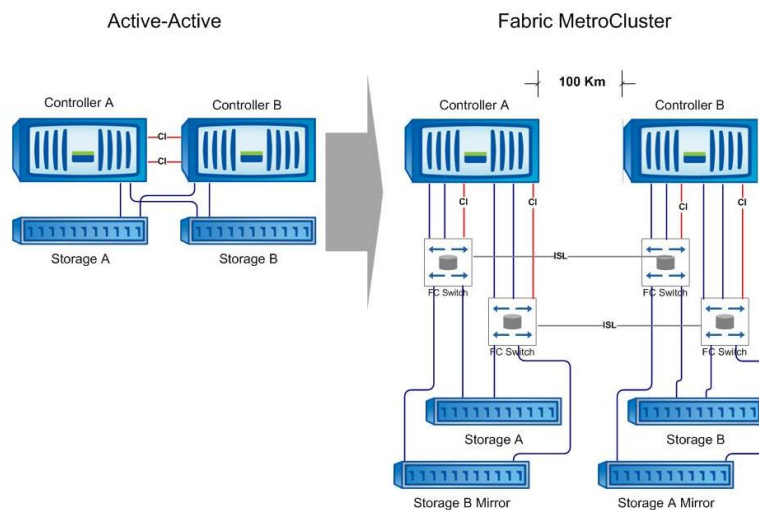

Figure 2) Active-active to fabric MetroCluster.
Figure 2 shows the addition of disk shelves to both sides assuming that this is truly an active-active configuration. If the original pair was not running applications on both sides, in other words, was running active-passive, then shelves for mirroring would only be required on the passive controller in order to protect the active controller. In a fabric MetroCluster configuration, only FC drive shelves are supported.
Four dedicated Fibre Channel (FC) switches will be required for the fabric MetroCluster configuration. Two will be located at each site. The switches must be supplied by NetApp. There will be redundant FC fabrics with one switch at each location as shown in Figure 2. Verify that the switches chosen are compatible with the controllers and Data ONTAP version (see MetroCluster Compatibility Matrix). Also make sure that the firmware installed on the switches is compatible with the MetroCluster matrix. The specific switch needed will depend on several factors described later in this document.
The fabric MetroCluster configuration in Figure 2 shows two interswitch links (ISLs). These FC connections carry the cluster interconnect and disk traffic between nodes. If the traffic isolation feature is being used, there will be a total of four ISLs requiring 4 fiber connections (traffic isolation separates the disk traffic from the cluster interconnect traffic). The distance between the two locations will determine the type of cabling, the Small Form-Factor pluggables (SFPs) needed for the ISLs, and possibly the switch model itself. Refer to the distance considerations section of this document for further information.
The fabric MetroCluster configuration in Figure 2 shows two interswitch links (ISLs). These FC connections carry the cluster interconnect and disk traffic between nodes. If the traffic isolation feature is being used there will be a total of four ISLs requiring 4 fiber connections (traffic isolation separates the disk traffic from the cluster interconnect traffic). The distance between the two locations will determine the type of cabling, the SFPs needed for the ISLs, and possibly the switch model itself. Refer to the distance considerations section of this document for further information.